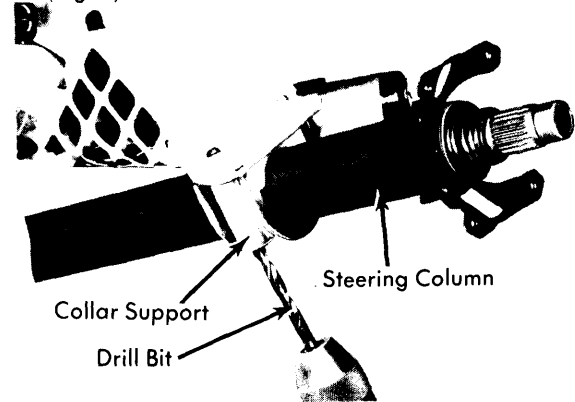

Fig. 1 Drilling Out Shear Bolts and Dropping Column Mounting Collar
3) Remove upper instrument panel trim to make shear screws accessible. **NOTE** – These screws are also upper steering column support screws. Drill off heads of shear screws. Remove steering lock and allow to hang by wiring. Remove steering column (Fig. 1).